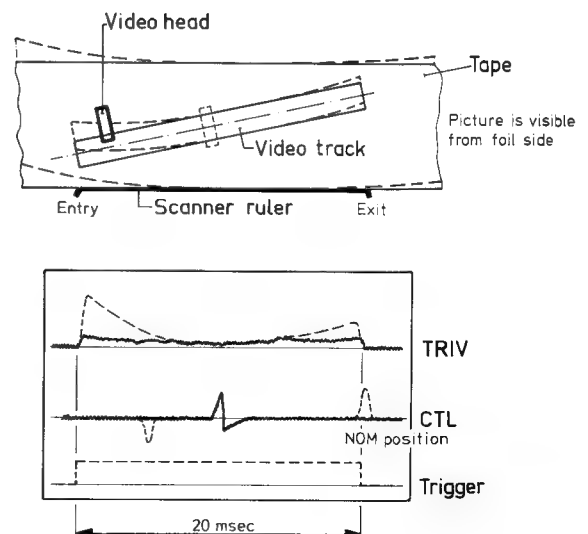
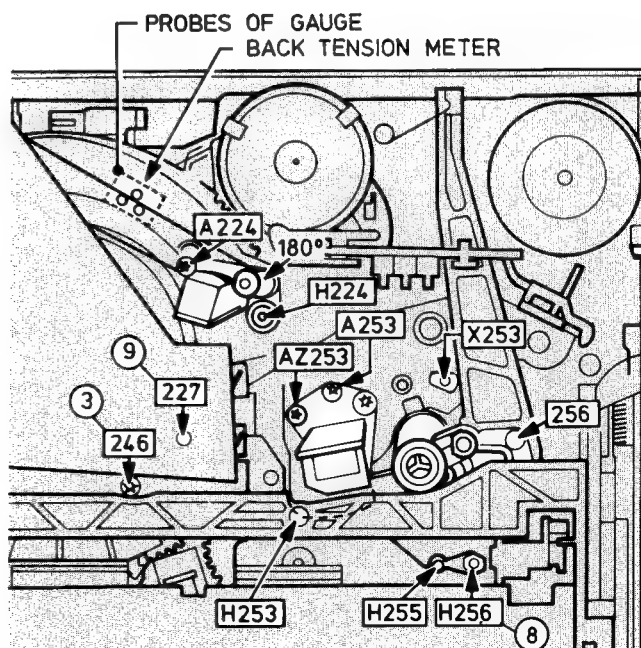

Fig. 2-8
Fig. 2-10
- After a few seconds put in the back tension meter Fig. 2-10.
- Adjustment is done by putting the spring pos 203 in an other notch.
2.8 Tape Path Adjustments (Fig. 2-8, 2-10; and page 13)
- Turn screw 227, fig. 2-10 in fully and then unscrew it by $1\frac{1}{4}$ turns only.
- If the rest of the deck adjustments have not been executed with, then adjust pos. 227 by not more than $\frac{1}{4}$ turn to centralise the tape on the reverse pin pos. 254 and pos. 255 during SEARCH FORWARD.